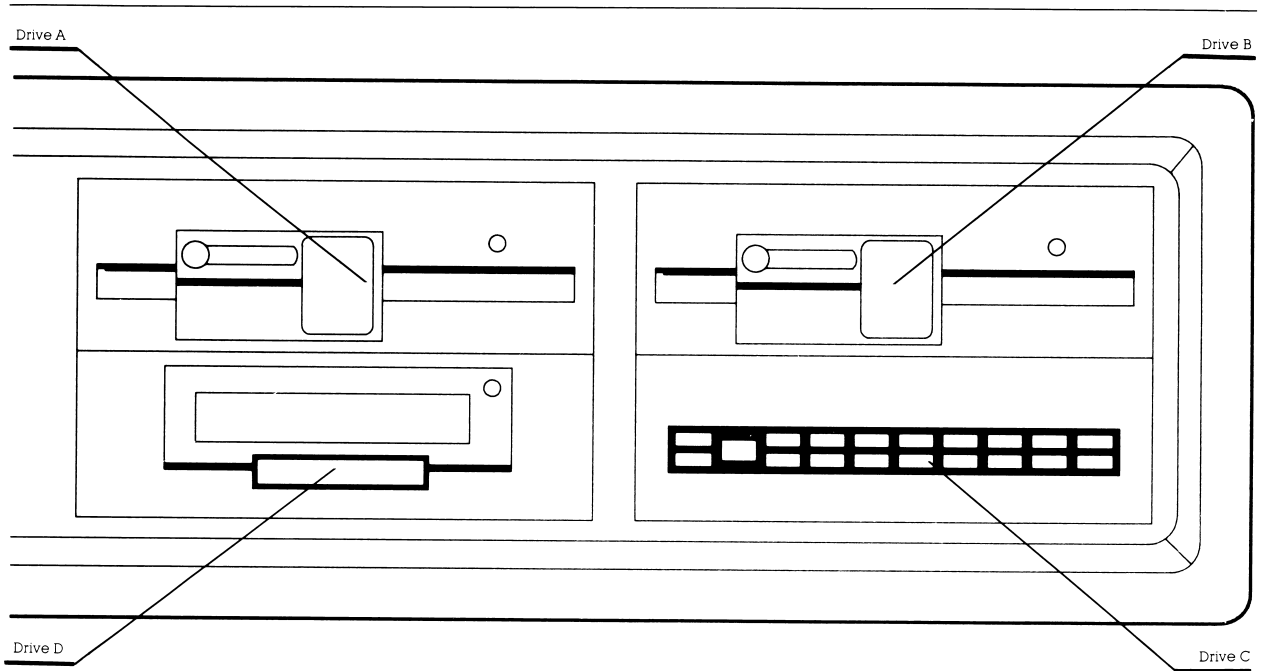

Figure 7-41. Location of Mass Storage Devices in both the COMPAQ DESKPRO and COMPAQ DESKPRO 286 Personal Computers.
**NOTE:** Before beginning this removal and replacement procedure become familiar with the location of mass storage devices A, B, C, and D (Figure 7-41). The suggested placement of mass storage devices in either the COMPAQ DESKPRO or COMPAQ DESKPRO 286 Personal Computers are: